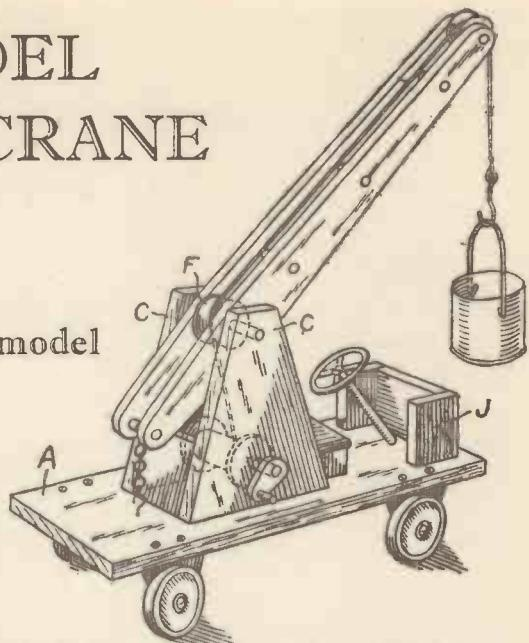
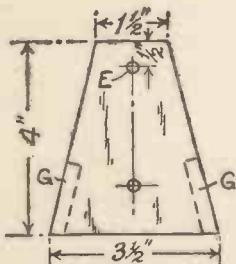

Fig. 1.—The Finished Model of the Crane.
Fig. 2.—The Measurements of the Side Pieces, marked C C in the Finished Model.
**T**HIS strong and instructive toy can easily be made with odd pieces of wood, a cotton-reel, and pieces of wooden knitting-needles. For the platform A saw a piece of  $\frac{3}{8}$ -in. wood 8 in. long by  $3\frac{1}{2}$  in. wide. Plane it on both sides and around the edges. Cut out four pieces of  $\frac{3}{8}$ -in. wood to the sizes given at B, for the wheel bearings. These are screwed to the platform, as shown in Fig. 1, at a distance of  $\frac{3}{4}$  in. from each end. Now saw the two side-pieces C C to the dimensions given in Fig. 2, and carefully smooth the edges with a chisel. On the centre line of each piece make two holes, as indicated, just large enough to allow a thick wooden knitting-needle to pass through.
**The Finished Crane.**—To complete the crane you will require 5 yds. or 6 yds. of thin twine, one end of which must be attached to the winding drum and wound up. The other end is passed over the two pulleys (see Fig. 1), and tied to a small hook, which you can bend to shape from a piece of thick wire. The little bucket can be made from a tin and a piece of bent wire.